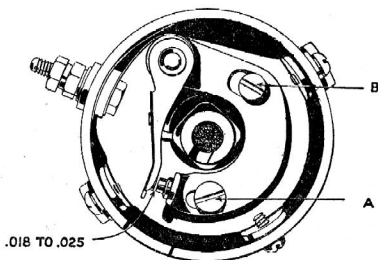

Fig. 30—Adjusting Distributor Breaker Points
The contact points on the Semi-Automatic Distributor are fixed in their mountings; and are controlled by an eccentric screw moving the mounting plate (Fig. 30.)
- 1st—Turn the motor over until the cam is in the position shown in Fig. 30. The contact points are then open the maximum distance.